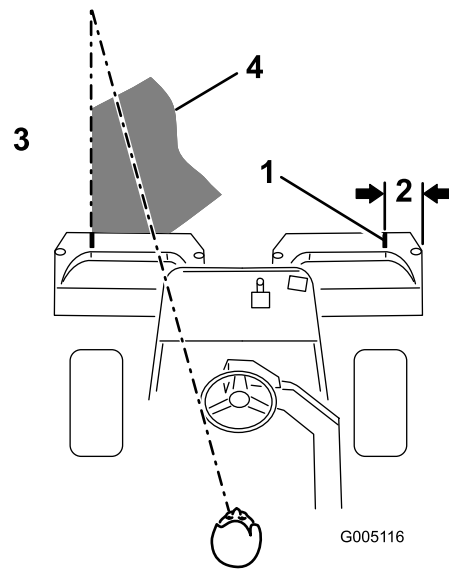

Figure 26
**Note:** To assist in maintaining a straight line across the green and keeping the machine an equal distance from the edge of the previous cut, imagine a sight line approximately 1.8 to 3 m (6 to 10 ft) ahead of the machine to the edge of the uncut portion of the green (Figure 26). Include the outer edge of the steering wheel as part of